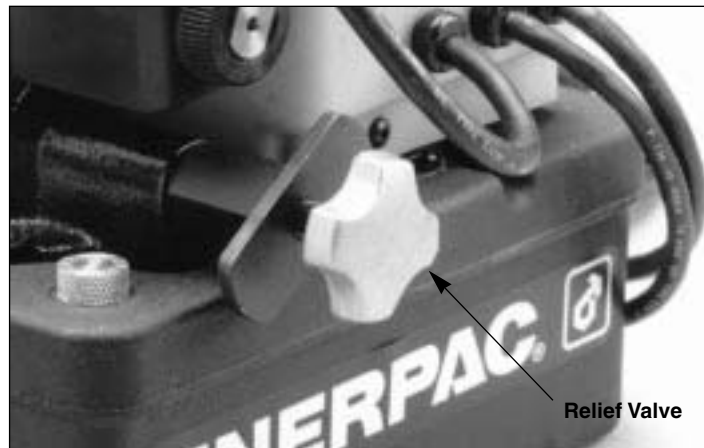

Figure 1, Pump Relief Valve
4. Loosen lock nut and back out (turn counter-clockwise) relief valve to prevent unintended pressure build-up. No tools are needed to adjust relief valve. See Figure 1.